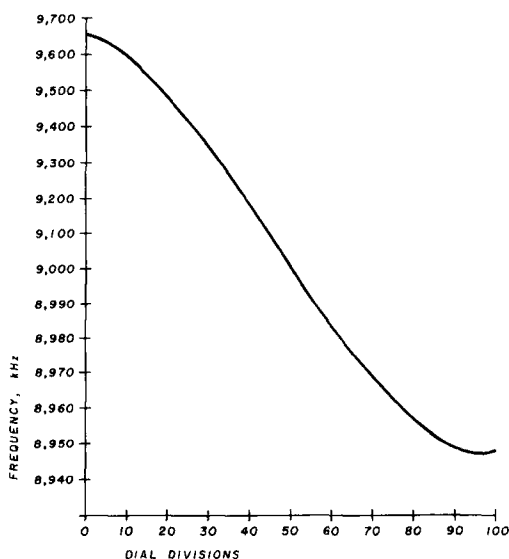

fig. 14. Copper-vane VFO H-1 frequency calibration.
**Performance.** Fig. 14 shows a frequency calibration